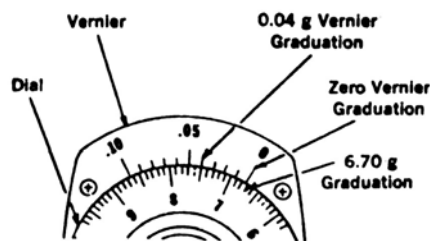

Figure 1. Typical dial reading.
10. Reading the Main and Vernier dials. Each Incremental graduation on the Main dial has a value of 0.1 gram. The Vernier dial is above the Main dial and sub-divides the 0.1 Main dial Increment down to 0.01 Increments. To obtain total gram weight, first record the number of grams and tenths of grams indicated on the Main dial at the zero vernier graduation. See the illustration in Figure 1. To obtain the hundredths of grams, read the value on the Vernier scale whose increment line most closely aligns with a Main dial graduation. Add the vernier hundredths value to the main dial grams and tenths of grams to find the total gram force. The reading shown in Figure 1 is 6.74 grams.